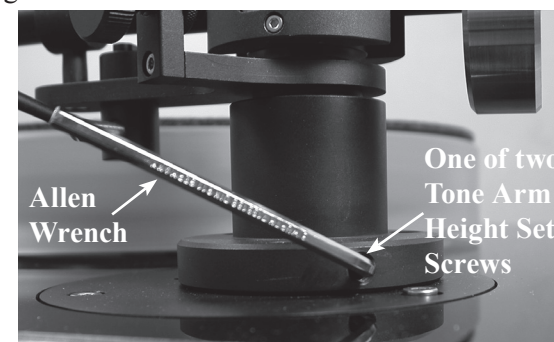

Figure 31
2. With the Tone Arm secured in the Tone Arm Rest, carefully loosen the two set screws while supporting the rear of the Tone Arm. Reposition the Tone Arm based on findings in the previous step. Temporarily tighten one of the set screws. Refer to figure 31.